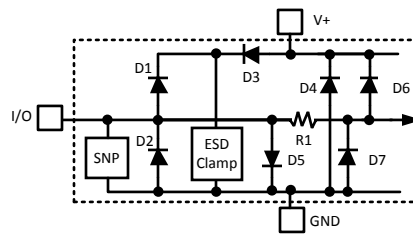

Figure 3. ESD Protection Input Structure
- (1) Absolute Maximum Ratings indicate limits beyond which damage to the device may occur. DC and AC electrical specifications do not apply when operating the device beyond its rated operating conditions.
- (2) When the input voltage (V_I) at any pin exceeds the power supplies (V_I < GND or V_I > V_{DD}), the current at that pin should be limited to 5 mA. Parasitic components and or ESD protection circuitry are shown in Figure 3 below for the LM95221's pins. The nominal breakdown voltage of D4 is 6.5 V. Care should be taken not to forward bias the parasitic diode, D1, present on pins: D1+, D2+, D1-, D2-. Doing so by more than 50 mV may corrupt the temperature measurements.
- (3) See the URL "<http://www.ti.com/packaging/>" for other recommendations and methods of soldering surface mount devices.
- (4) Human body model, 100pF discharged through a 1.5kΩ resistor. Machine model, 200pF discharged directly into each pin.